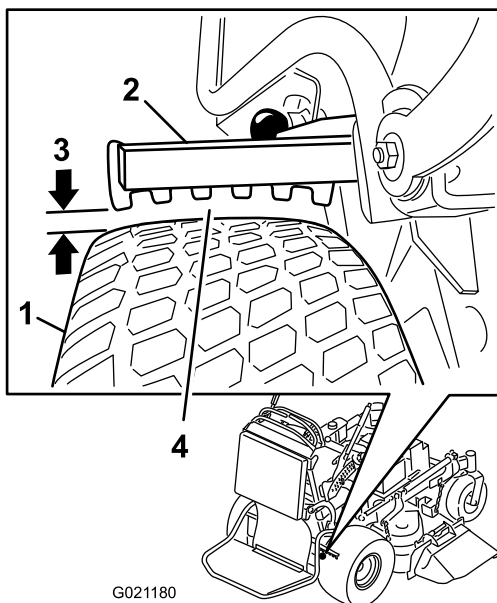

Figure 60
6. Using the side with the smallest clearance, ensure that the distance is between 3 and 6 mm (1/8 and 1/4 inch) as shown in Figure 60; refer to Adjusting the Brakes \(page 43\) if the distance is incorrect.
5. Adjust the yoke (Figure 60).